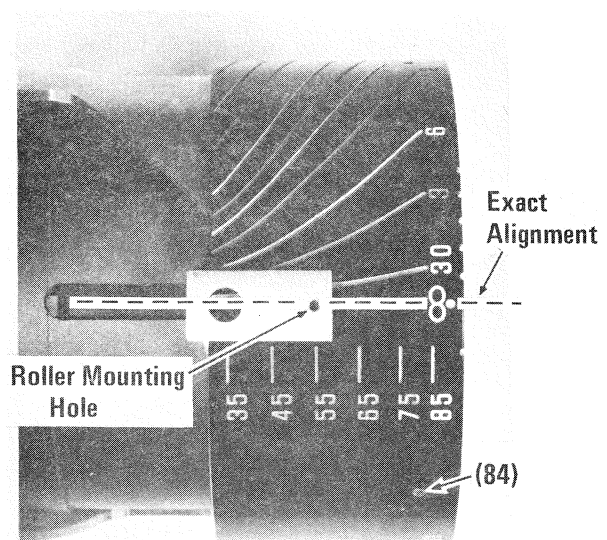

FIG. 5-7
- b) Push the index ring fully on to the helicoid; then rotate the index ring until the infinity index line exactly aligns with the roller mounting hole in the bridge ring. Seal and tighten three setscrews (84), clamping the index ring to the outer helicoid. Fig. 5-7.